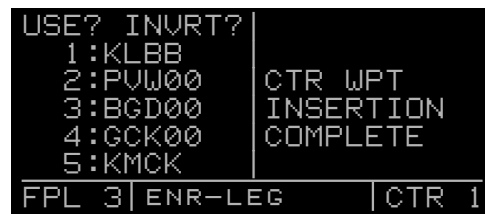

Figure 5-97
5. Insert the Center Waypoints into the displayed flight plan by returning to the CTR 1 page on the right side and pressing **ENT** (figure 5-97). The Center Waypoints are inserted into the flight plan in the correct order.